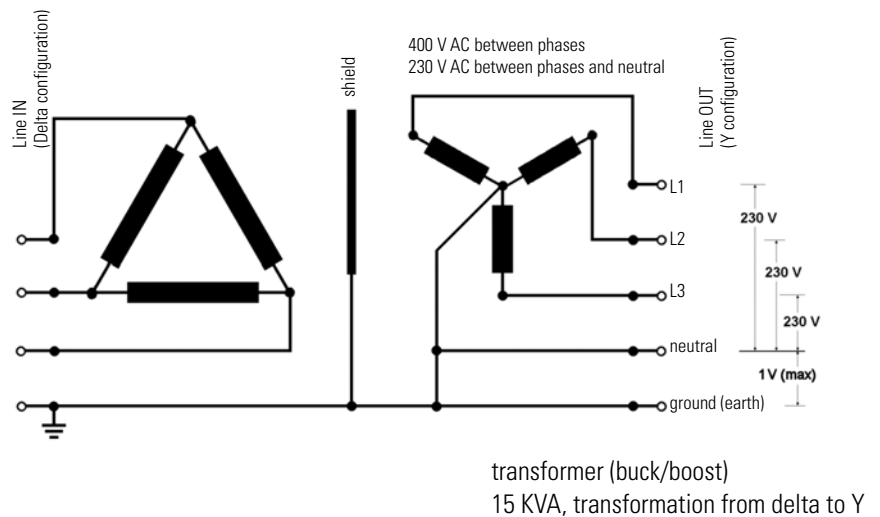

Figure 4-1. Delta-to-Y conversion
In case of a Δ (Delta) configuration at your location (ask the responsible technician), an isolation transformer is required which steps up the three phases 120 V AC (Delta) to 230 V AC (Y) with respect to ground (see Figure 4-1). For a suitable transformer contact your local Thermo Fisher Scientific office.